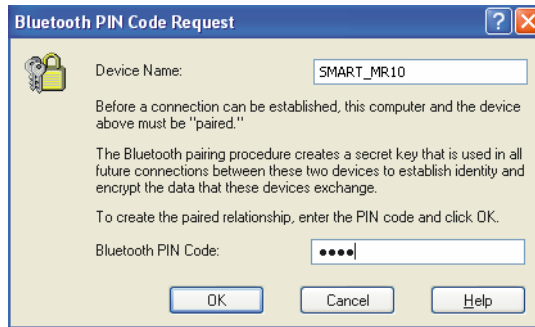

Figure 32: Bluetooth PIN Code Request
3. Enter the SMART-MR10 or SMART-MR15 default pin number of four zeroes (0000), as shown in *Figure 32*: